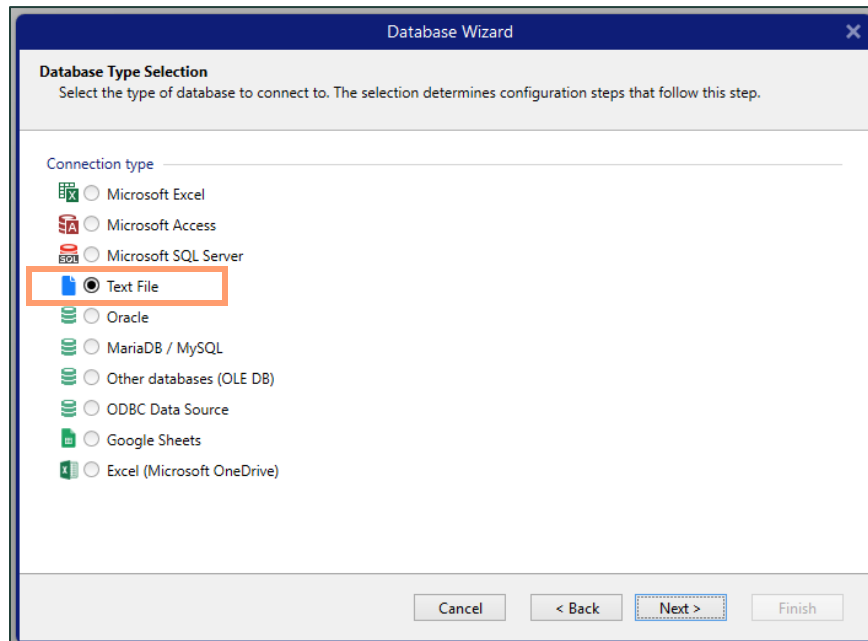

Figure 15: Database Wizard with Text File selected in the Connection Type list
9. In the Database Wizard window, select “Text File” as your Database Type Selection to leverage the CSV file downloaded previously containing your Retail ID codes– **see figure 15.**